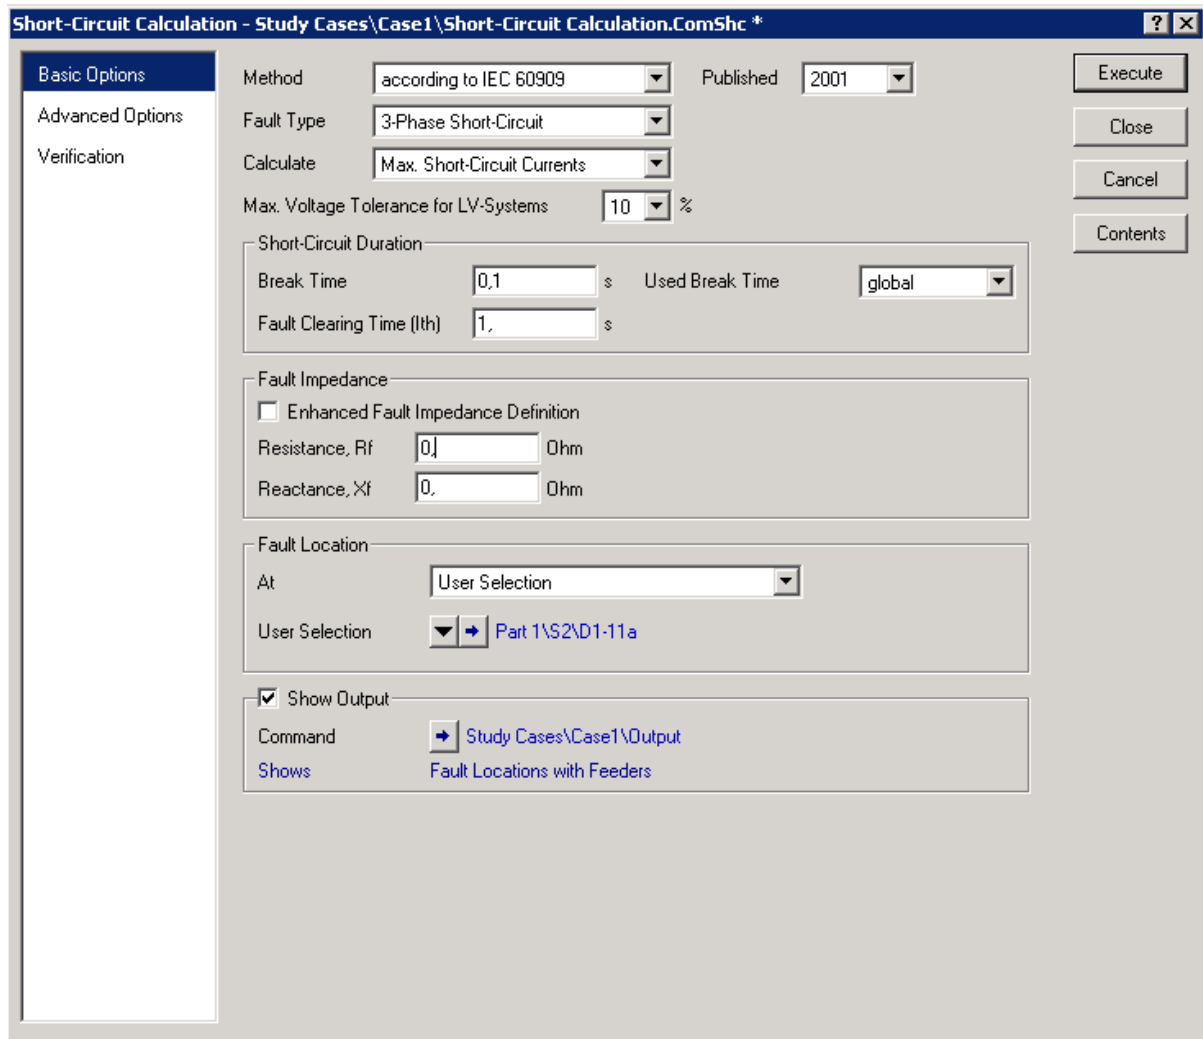

Figure D.5.2: The short-circuit command dialogue
- The dialogue should look like Figure D.5.2 now. Press the **Execute** button.